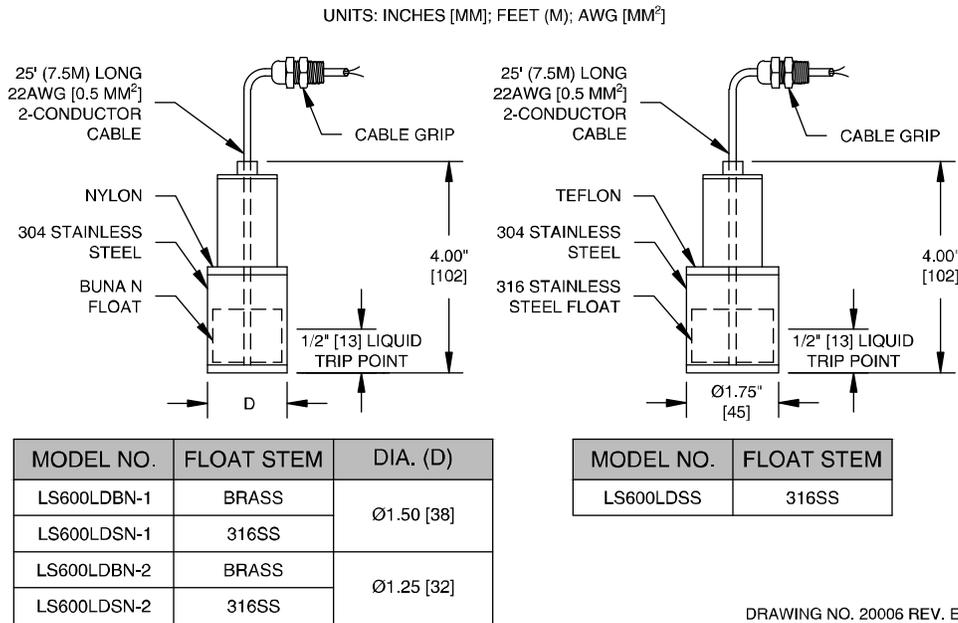

Figure 1-5 – LS600 LD Series
TMS3000E can be integrated with a variety of liquid sensors used for monitoring secondary containment areas around tanks and pipes. The maximum is 48 sensors depending on the overall job configuration; check the specific job design drawings for the actual number and type specified. Figures 1-5 through 1-8 show four (4) typical sensor types provided by Pneumercator with their most typical applications. Other non-Pneumercator models may be used; however, their use with TMS3000E should have been approved before attempting to wire them into the system.